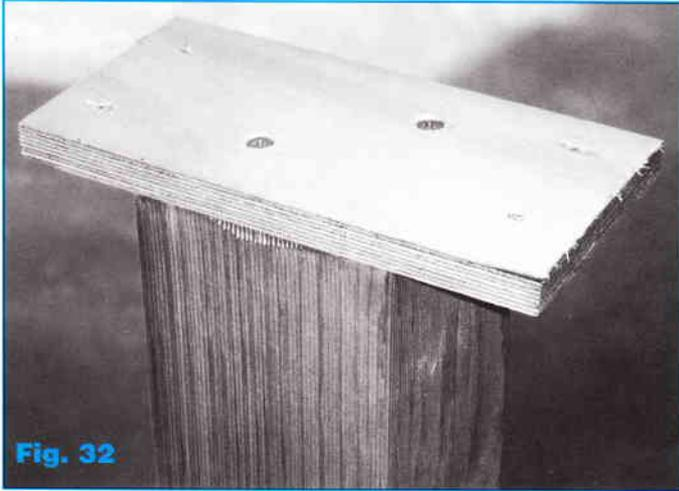

Fig. 32
21 Cut the post plate (L) to size and glue and screw it to the top of the post with two 50 mm screws (Fig. 32).